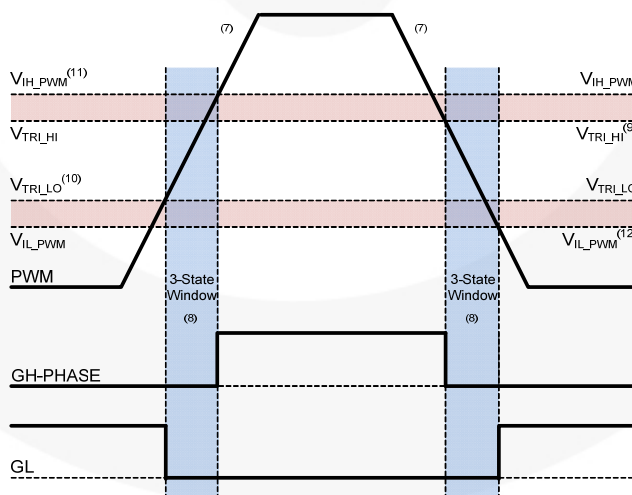

Figure 30. PWM Threshold Definition
7. The timing diagram in Figure 30 assumes very slow ramp on PWM.